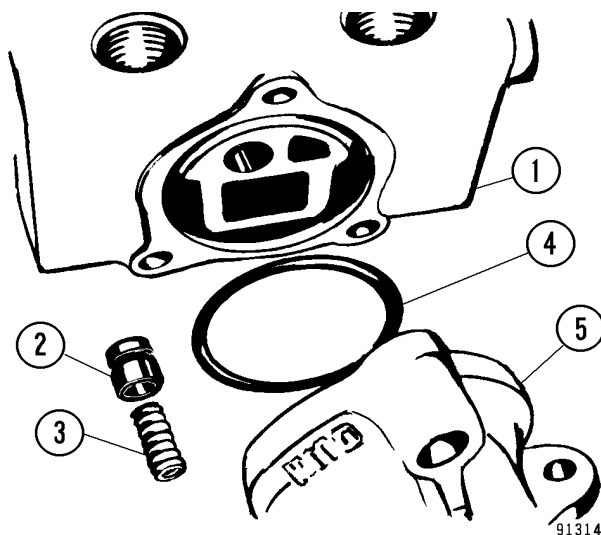

FIGURE 8-14. HOIST PILOT VALVE REASSEMBLY
3. Install check poppet (2, Figure 8-14) and spring (3) in spool housing (1).
4. Install new O-ring (4) in spool housing. Move the inlet and outlet housings into position.